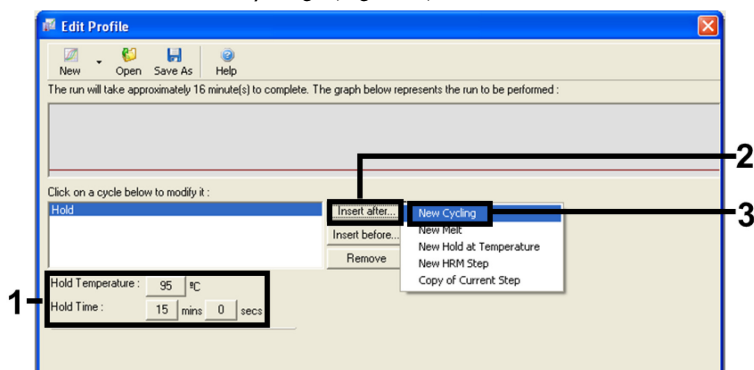

Figure 5. Initial incubation step at 95°C.
7. Change "Hold Temperature" to 95°C and "Hold Time" to 15 mins 0 secs. Click "Insert After" and then select "New Cycling" (Figure 5).